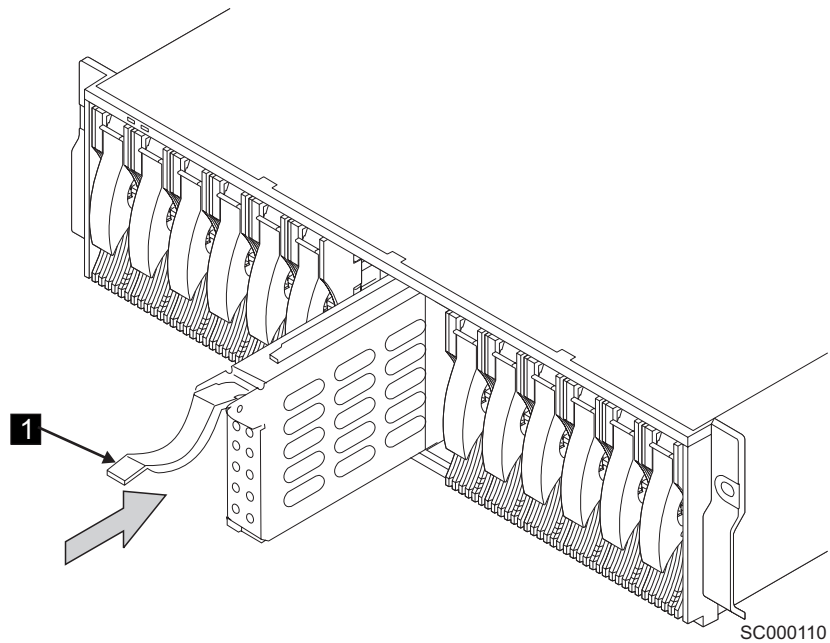

Figure 55. Installing the SCSI bridge card assembly
1. Ensure that the handle **1** of the SCSI bus bridge card assembly is fully open, as Figure 55 shows.